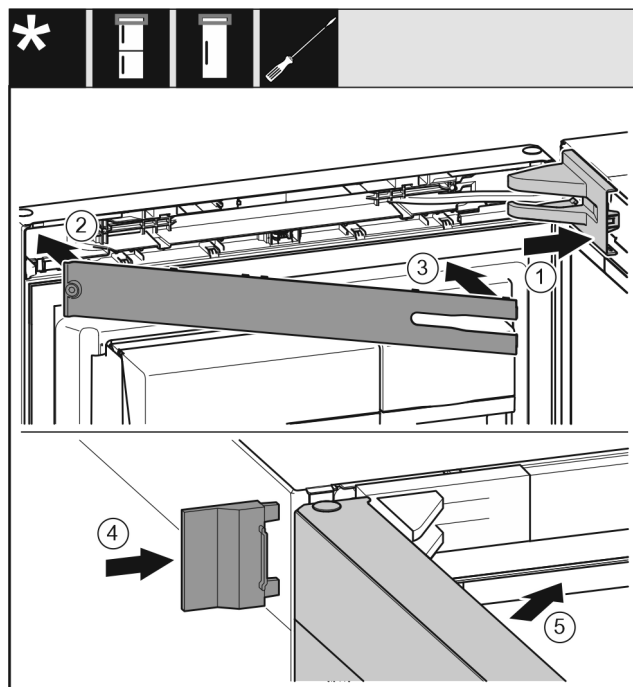

Fig. 54
- ▶ Put the swap bearing block cover *Fig. 54 (1)* on and engage, push apart carefully if required.
- ▶ Fit the trim *Fig. 54 (2)*.
- ▶ Screen *Fig. 54 (3)*
- ▶ Push the outer cover *Fig. 54 (4)* on.
- ▶ Close the upper door *Fig. 54 (5)*.